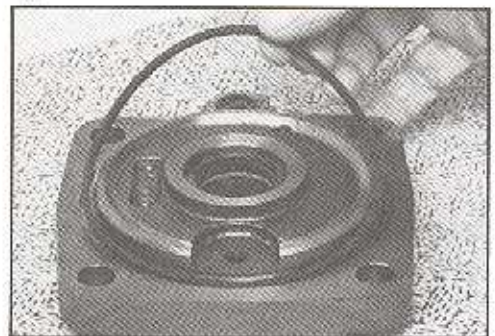

Figure 118
14. Coat each new seal ring liberally with clean grease for retention and assemble **new** seal ring (21), and **new** seal ring (19A), **new** seal ring (B) and two **new** seal rings (19A) in the appropriate recesses provided in both sides of adaptor (20). SEE FIGURE 118.